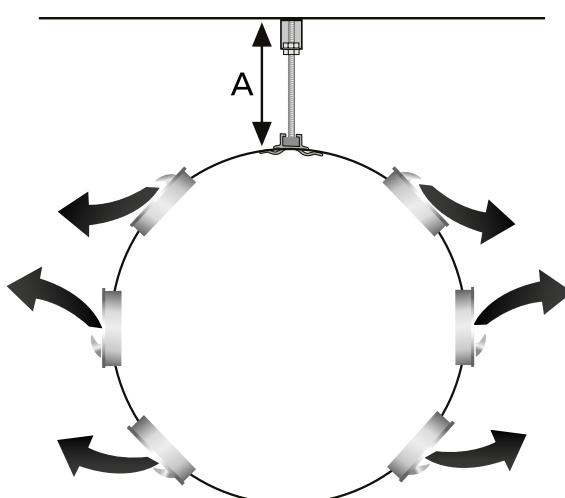

Figure 6. 2-way air discharge with long throw. The uppermost row of discs on both sides of the aluminium strip should be set for downward air discharge.
*) Direct installation against ceilings can only be done for 2-way air discharge, according to figure 6.